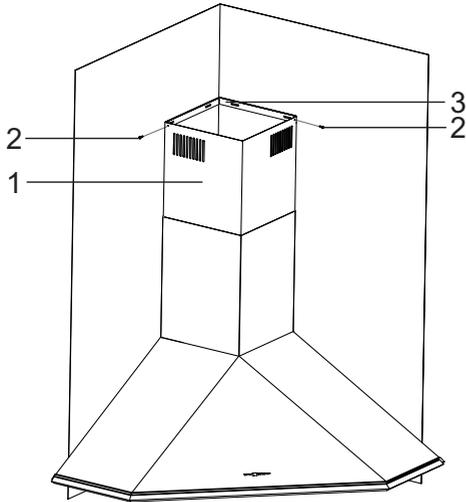

Fig. 12: ASSEMBLY OF SHEET METAL FLUES
By pulling the inner flue (1) with screw (2) upwards and, screw it to the flue connection plate (3) on the right and left (Fig.12).